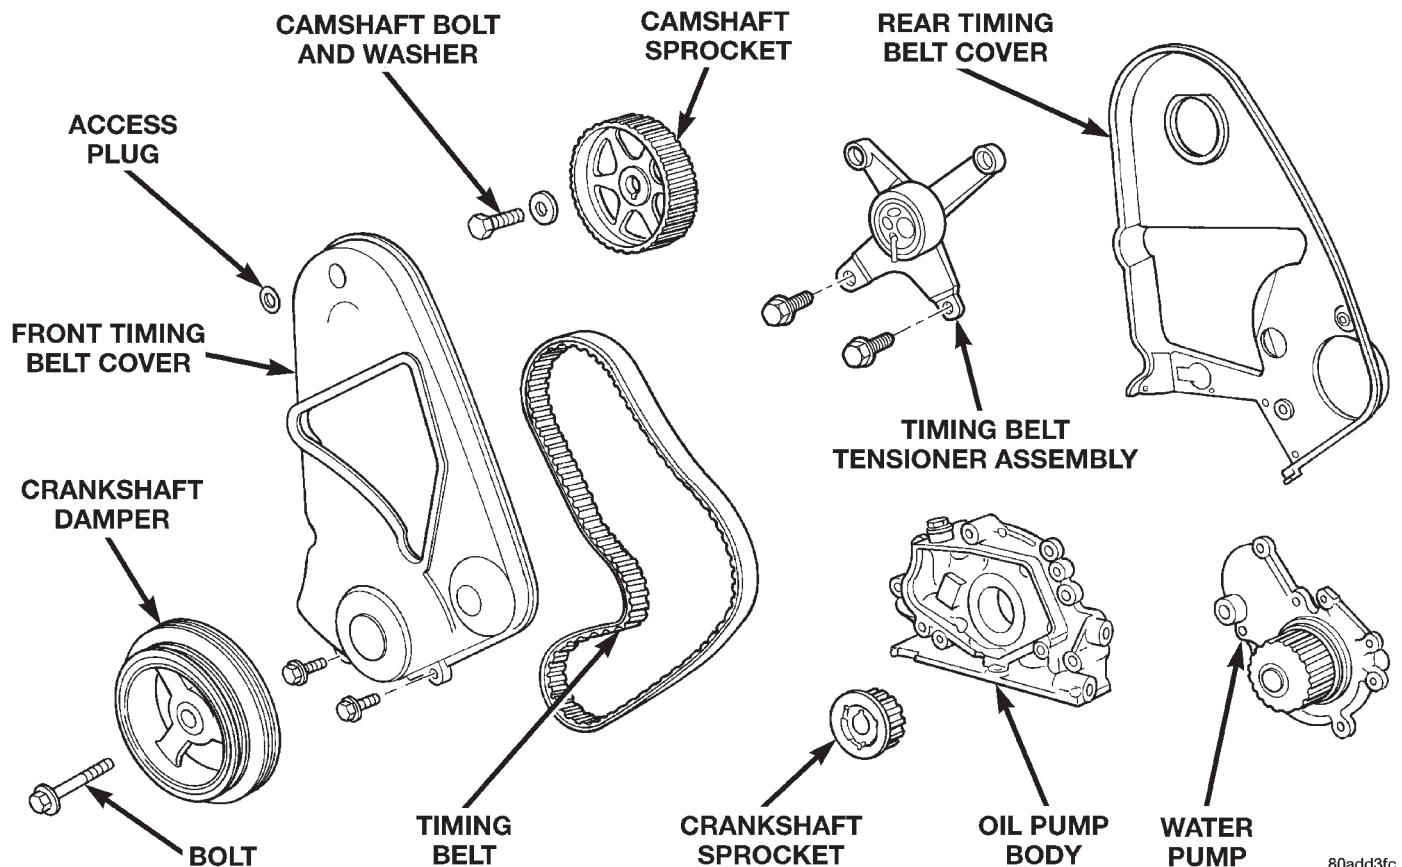

Fig. 72 Timing Belt System
- Remove the access plug from the outer timing belt cover (Fig. 72).